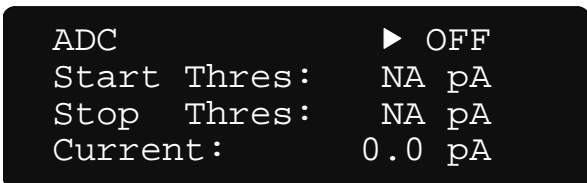

Figure 3-15. Automatic Leakage Compensation Disabled
When automatic leakage compensation is disabled, the annunciator displays off (OFF) (Figure 3-15), the start and stop threshold settings cannot be changed and display Not Available (NA), as do the leakage measurements.